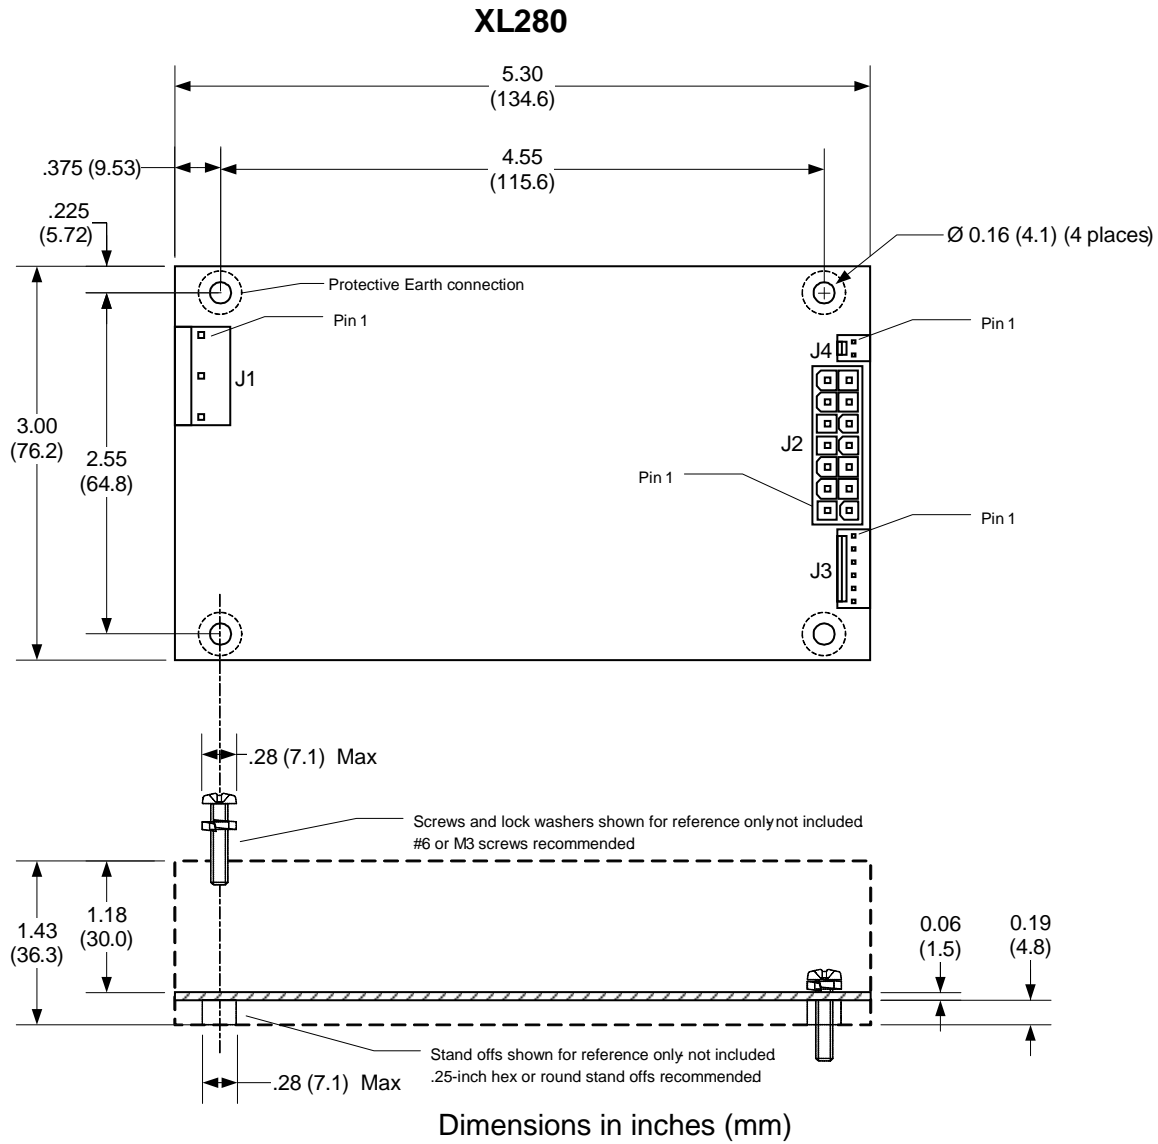

Figure 4-2 Dimensions
The pin-1 location differs amongst connector manufacturers. Sometimes pin-1 differs between the header (on the power supply) and the mating housing from the same manufacturer. Disregard the manufacturer's pin-1 location and follow only the pin-1 locations in Figure 4.2
- Refer to Figure 4-2 for connector and pin-1 locations